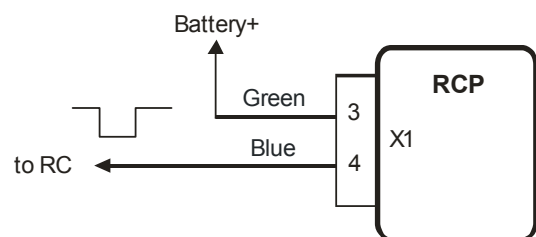
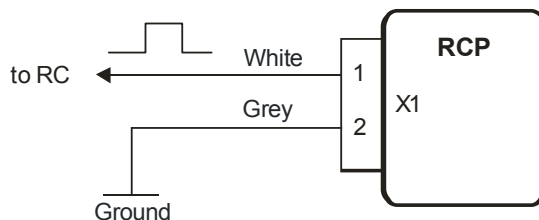
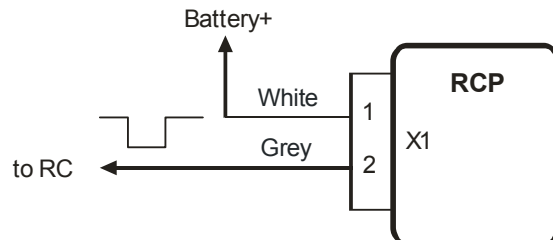

Figure 3
Figure 4
Figure 5
- The fig.3 presents the scheme to turn the heater on by the impulse of positive polarity. The fig.4 presents the scheme to turn the heater on by the impulse of negative polarity.
- The fig.4 presents the scheme to turn the heater off by the impulse of positive polarity. The fig.5 presents the scheme to turn the heater on by the impulse of negative polarity.